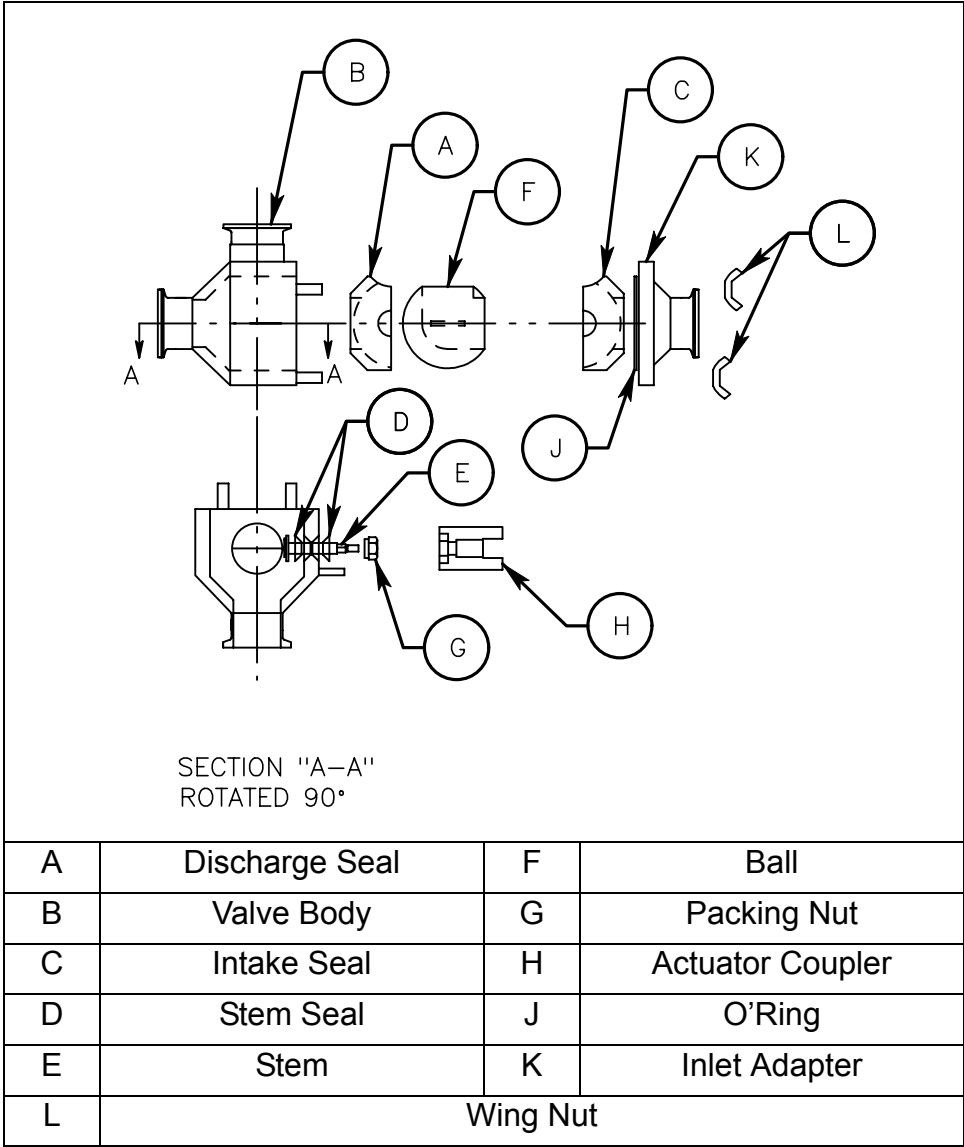

Figure 7-3: Disassembly of Nozzle Assembly
5. Remove lower product barrel clamp (B).
6. Unclamp and remove product barrel (C) from air cylinder (D).
8. Remove pin in piston (E).
9. Unclamp (F) and remove product barrel elbow (G).
10. Remove actuator with thumbscrews on mounting bracket. Note the UP stamp on the coupler for assembly. Refer to Figure 7-3 on page 7-7.
11. Raise nozzle (H) vertically to remove.
1. Install nozzle (H).
2. Install actuator with thumbscrews on mounting bracket. Ensure the UP stamp on the coupler is on the top. Refer to Figure 7-3 on page 7-7.
3. Install and clamp (F) product barrel elbow (G).
Refer to Figure 7-3 on page 7-7 for the following steps.